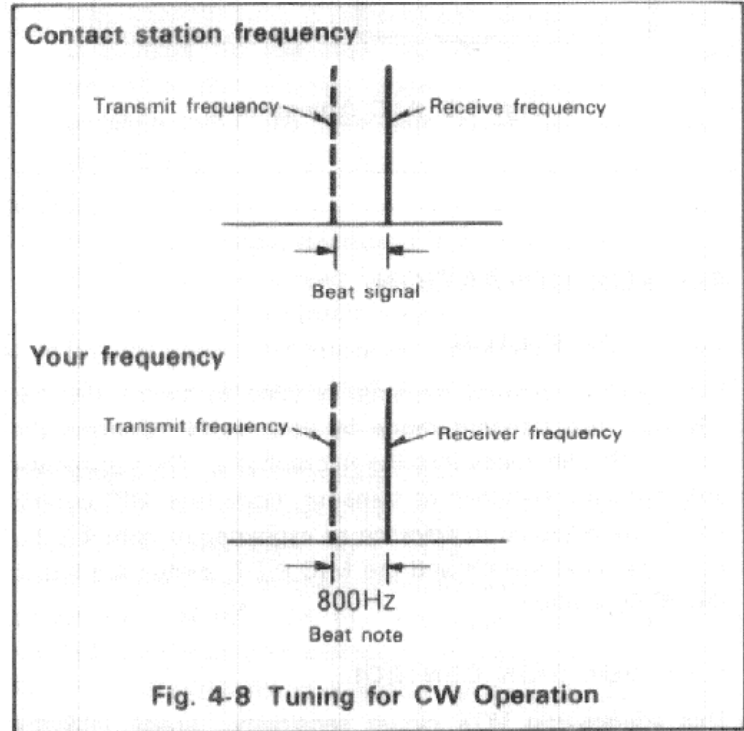

Fig. 4-8 Tuning for CW Operation
**4.7 CW OPERATION (Fig. 4-8)**